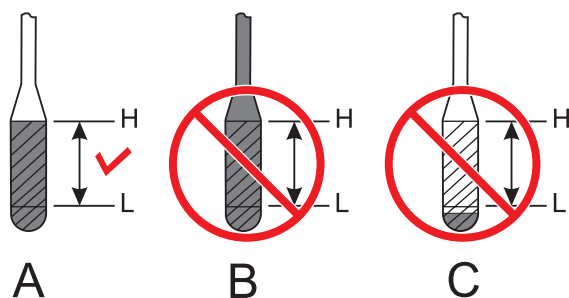

Figure 35. Engine Oil Dipstick Level
3. Reinsert the dipstick, then remove the dipstick from its holder. Check the oil level shown on the dipstick (Figure 35).